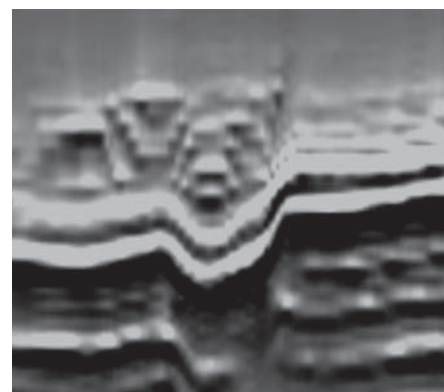

Figure 2. Close up of the channel-like feature just above the strong P reflection that can be seen in Figure 1.
In addition, 2D surface electrical resistivity (ERT) and 1D and 2D surface NMR data sets were collected along two parallel transects at this site. The ERT inversion, shown in Figure 2, (the direct push EC and NMR measurements shown in Figure 1 were collected on this transect), shows that this site is quite conductive, with some correlation between the slightly higher resistivities at the surface and the uppermost permeable layer between 3 m and 7 m (if you really squint at the section). The 2D surface NMR inversion (Figure 3), collected along a transect 100 m south of the ERT line, indicates a clear and laterally continuous aquifer zone between depths of 3 m and 7 m, and a lower, laterally discontinuous aquifer zone at a depth of about 15 m.
Figure 2. 2D electrical resistivity inversion, Leque Island Washington, USA, 2013. The electrical resistivity measurements are dominated by the conductivity of the groundwater below 5 m, and hence indicate little variability below 5 m.
Figure 2. Petrophysical analyses were used to constrain deposit/prospect scale modelling of specific mineralisation styles, and also to constrain transformations of the magnetic field.
A strength of this integrated, multi-deposit approach is the creation of an internally-consistent dataset of samples analysed in a consistent manner. This facilitates direct comparisons between deposits, and enables application of insights gained at the deposit scale, resulting in a better understanding of the mineral system as whole (e.g. Figure 2).
appears to have improved resolution. Figure 2 is a zoom into a channel-like feature visible on the pseudo-relief
- Thin dykes intruding coal-bearing sediments (Figure 2).
Figure 2. Even very thin dykes can pose an expensive problem to longwall mining if their presence is not expected. This series of broad spectrum profiles clearly identifies near surface dykes down to 0.1 m in thickness. A pair of thin sills can also be recognised from this data.